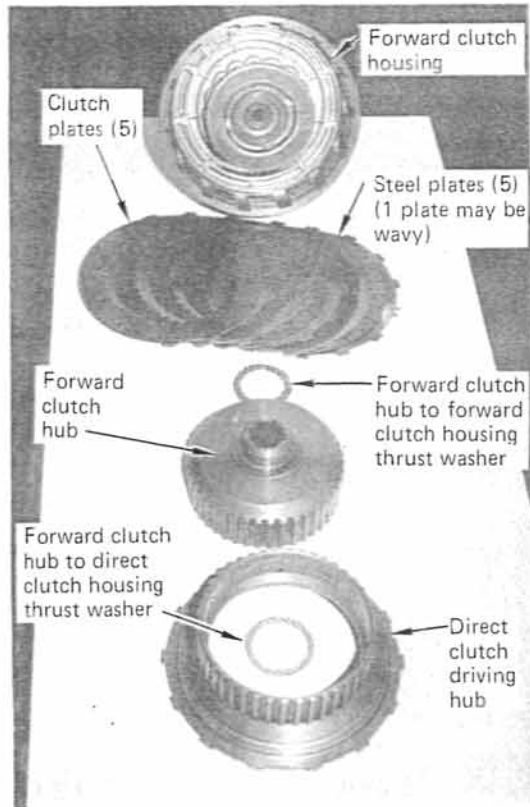

FIGURE 20
**STEP 1.** Remove the snap ring from the rear of the forward clutch housing. (See Fig. 20) Remove the direct clutch driving hub, forward clutch hub, thrust washer and five clutch plates and steel plates.
gear. Remove the rear internal ring gear from the output carrier. (See Fig. 20) There is another bearing assembly on the front of the rear internal gear. It is not necessary to take the rear internal gear off the main shaft. Put the bearing assemblies in the oil pan.
### III. Forward Clutch (Refer to Figure 20)